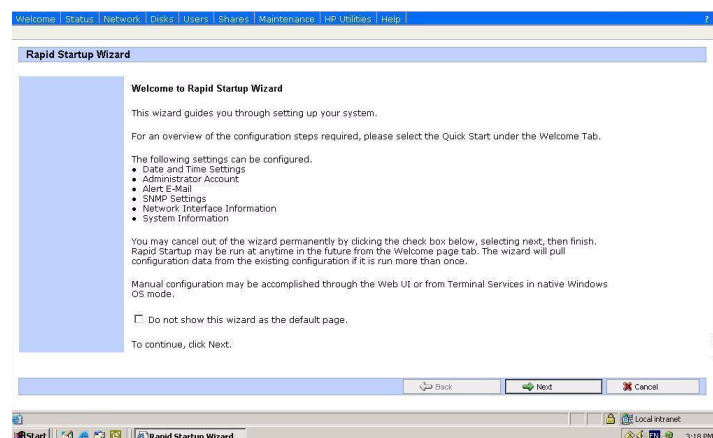

Figure 3: Rapid Startup wizard screen
10. Login to the WebUI. This launches the WebUI configuration application (Rapid Startup) on the target storage server, as shown in Figure 3.
4. Login to the WebUI. This launches the WebUI configuration application (Rapid Startup) on the target HP ProLiant Storage Server, as shown in Figure 3.
5. Open Internet Explorer to launch the WebUI configuration application (Rapid Startup) on the target storage server, as shown in Figure 3. If the WebUI does not launch, connect to the *LocalHost* and login to the WebUI.
Ensure that an Internet Explorer window open and the WebUI is at the Rapid Startup Wizard, as shown in Figure 3.